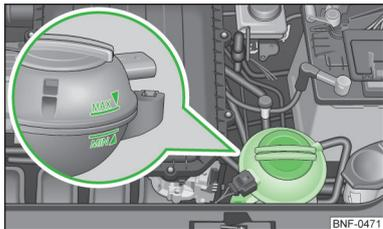

Fig. 101
The description of the coolant is shown in the coolant expansion reservoir » Fig. 101 on page 112.
- Do not fill the coolant above the **MAX** mark » Fig. 101 on page 112.
Coolant expansion reservoir » Fig. 101
» Check the level of coolant in the coolant expansion bottle » Fig. 101.
If the engine is warm, the test result may be inaccurate. The level can also be above the mark "MAX" » Fig. 101.